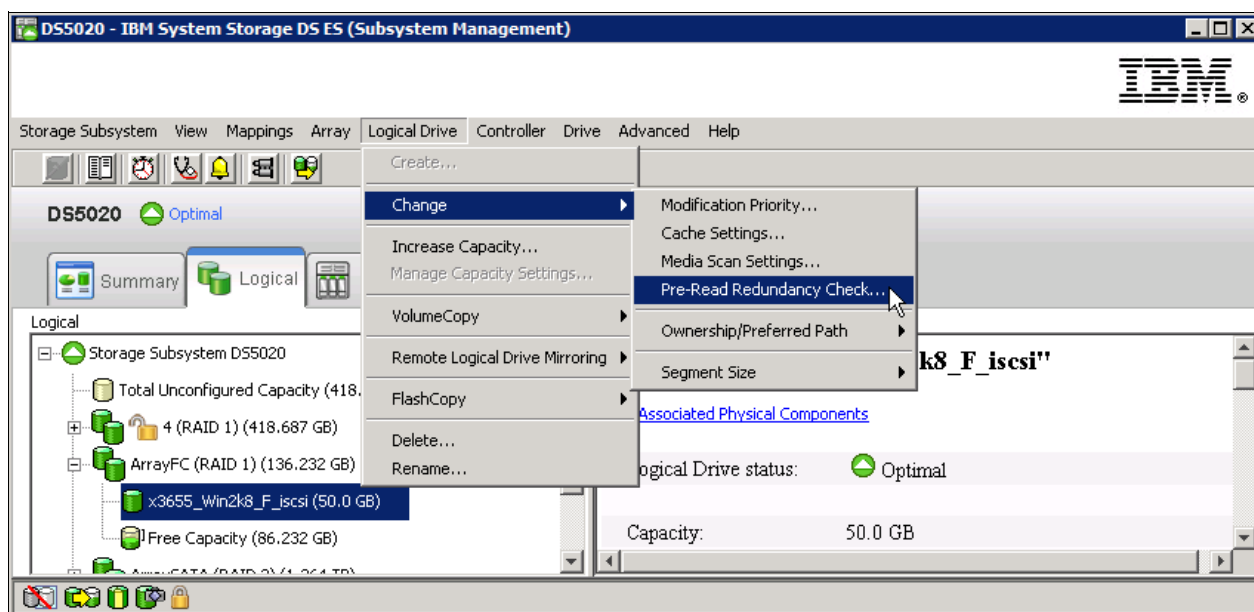

Figure 3-102 Pre-read redundancy check
2. Select **Logical Drive** → **Change** → **Pre-Read redundancy check**, as shown in Figure 3-102.